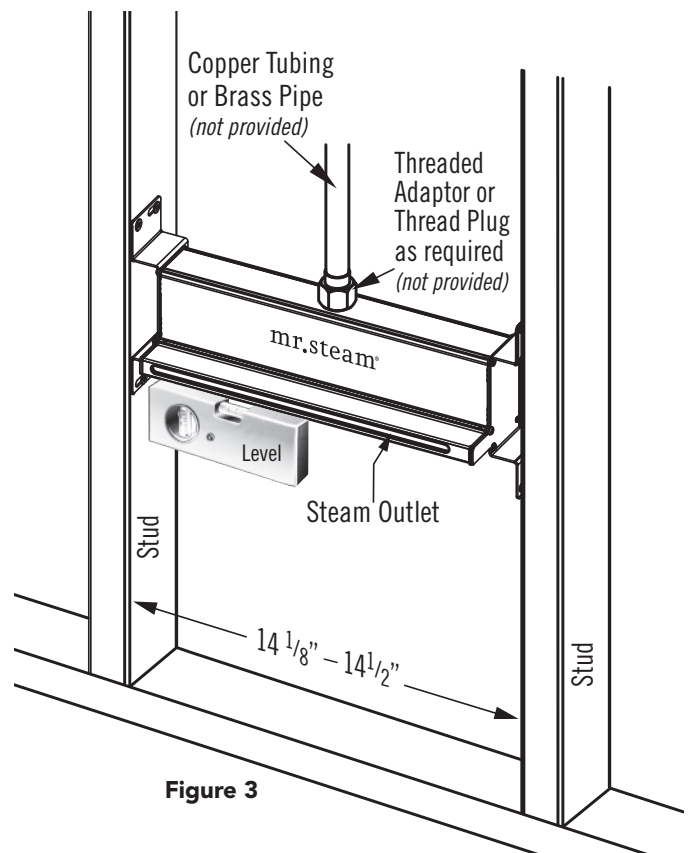

Figure 3
**STEP 4.** Use a level to ensure the steam head is level (see Fig. 3 ) and the steam head face is flush or extends 1/8" from the finished wall surface. Install the four screws in the mounting holes to secure the steam head to the studs.